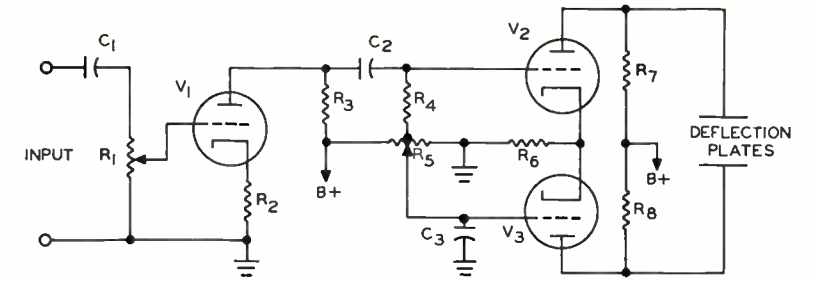

FIGURE 4
18. (b) 180° out of phase -- V_2 and V_3 of Figure 4 form a push-pull stage, so the signal voltages on the plates are 180° out of phase.